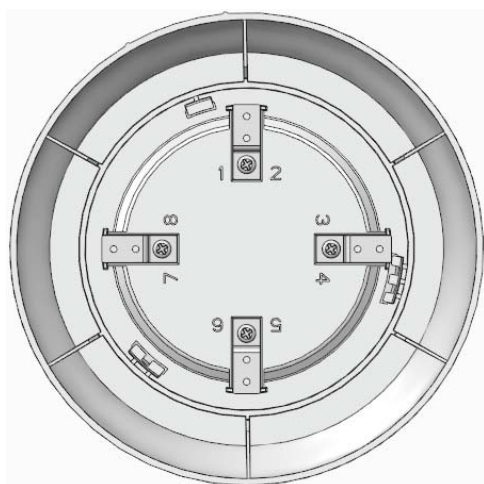

Fig.2 Bottom structure of the Sounder Base
2. The bottom structure of the Addressable Sounder Base as shown in Figure 2. Install the Addressable Sounder Base on the LF-X5980-type base with the installation terminals of the two devices are one-to-one. The device number or other device parameters can be verified with a handheld programmer if desired.